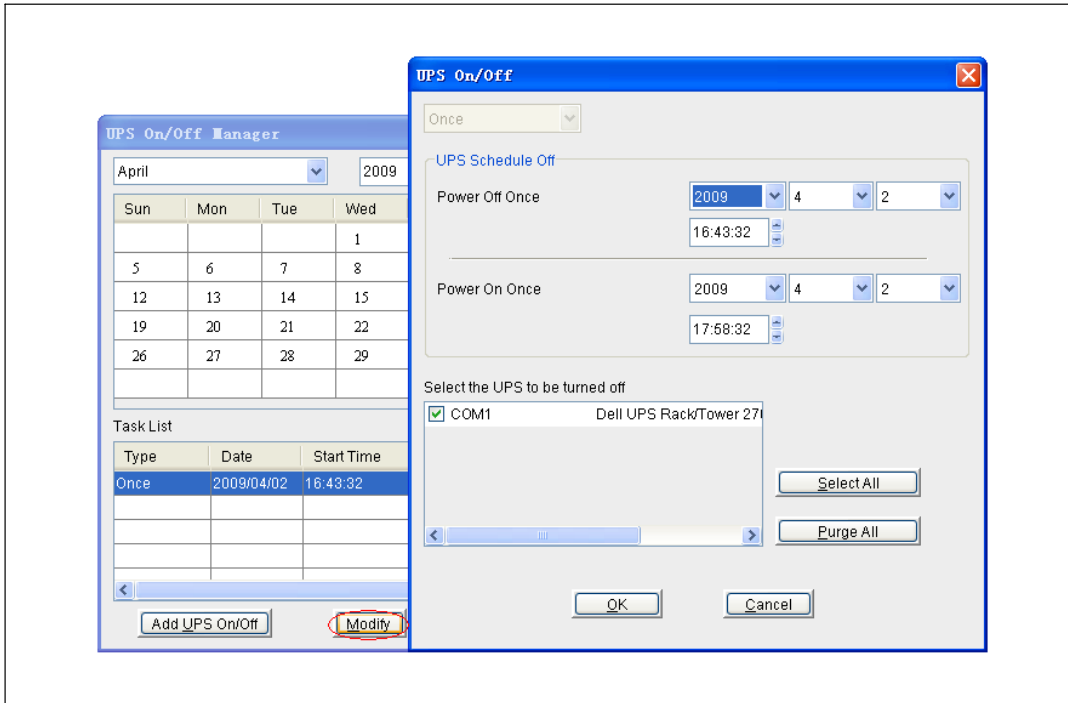

Figure 84. Modify a Scheduled UPS On/Off Task
- 2 Click **Modify** and update the schedule (see Figure 84).